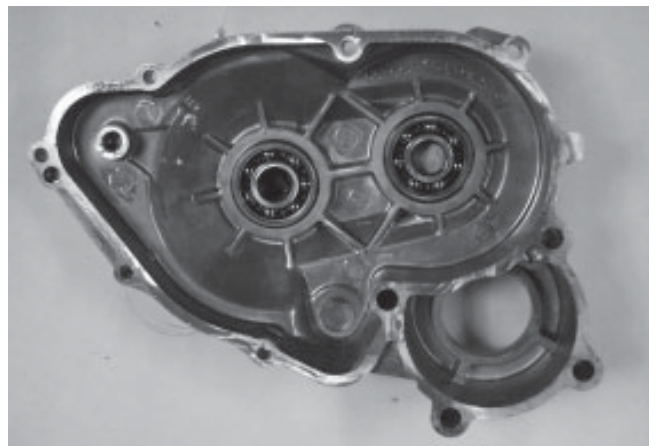

Fig. 42
- ✓ The closed side of a bearing faces the component, see Fig. 42.